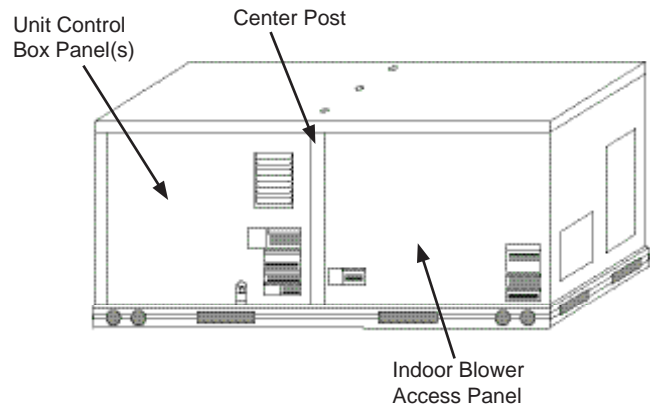

Fig. 6 - Typical Indoor Fan Motor Access Panel Locations
Step 9: Remove the indoor blower access panel and the panel(s) covering the unit control box. See Figure 6.